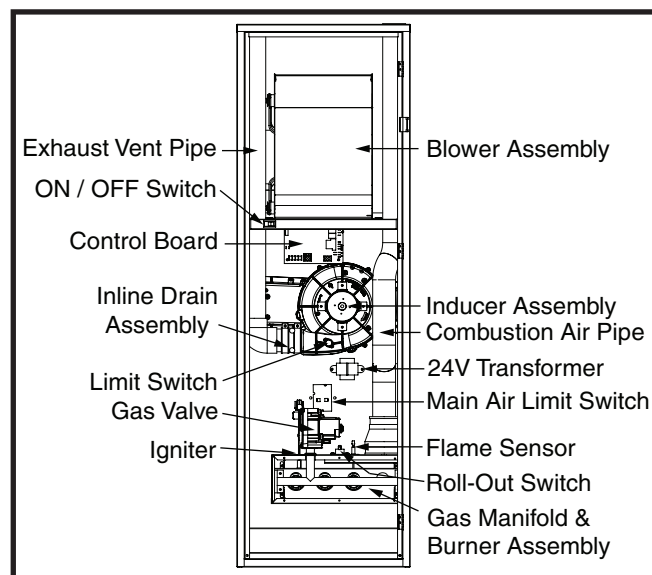

Figure 17. Furnace Components
If the burners must be cleaned, follow steps 1-12. See Figure 17 for component location.
been verified, check the blower limit switch and reset if necessary. See Figure 17 for component location.
- If the furnace still doesn't operate, check the flame roll-out switch (Figure 17) and reset if necessary.
The descriptions below are various functional components that affect the operation and shutting down of this furnace. Some of these components and their locations are shown in Figure 17. If any component of the furnace must be replaced, use only factory authorized replacement parts specified in the Replacement Parts List provided online.